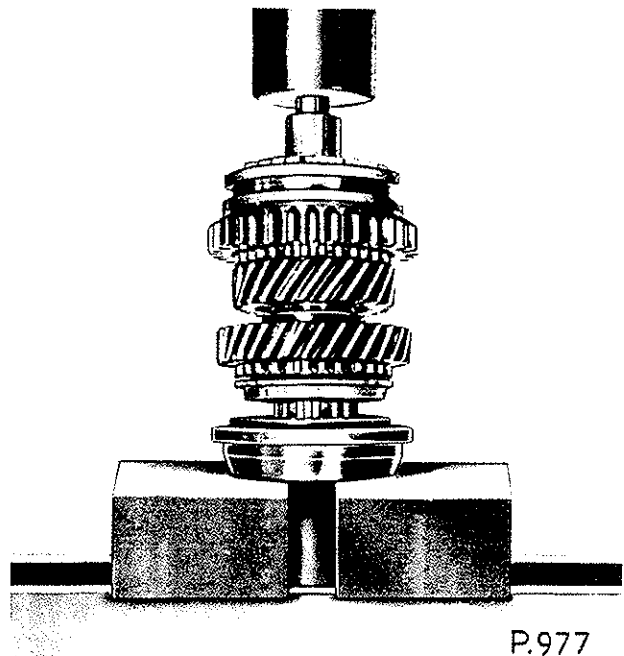

Fig. E.21. Refitting the 1st and 2nd synchro hub assembly
- (f) The same pressing operation can be carried out for refitting the 2nd speed gear and 1st and 2nd synchro hub, as shown in Fig. E.21.